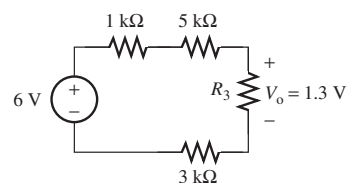

FIGURE P3.24 Circuit for Problem 3.24.
- 3.24** (A) Given V_0 , find R_3 in Figure P3.24.